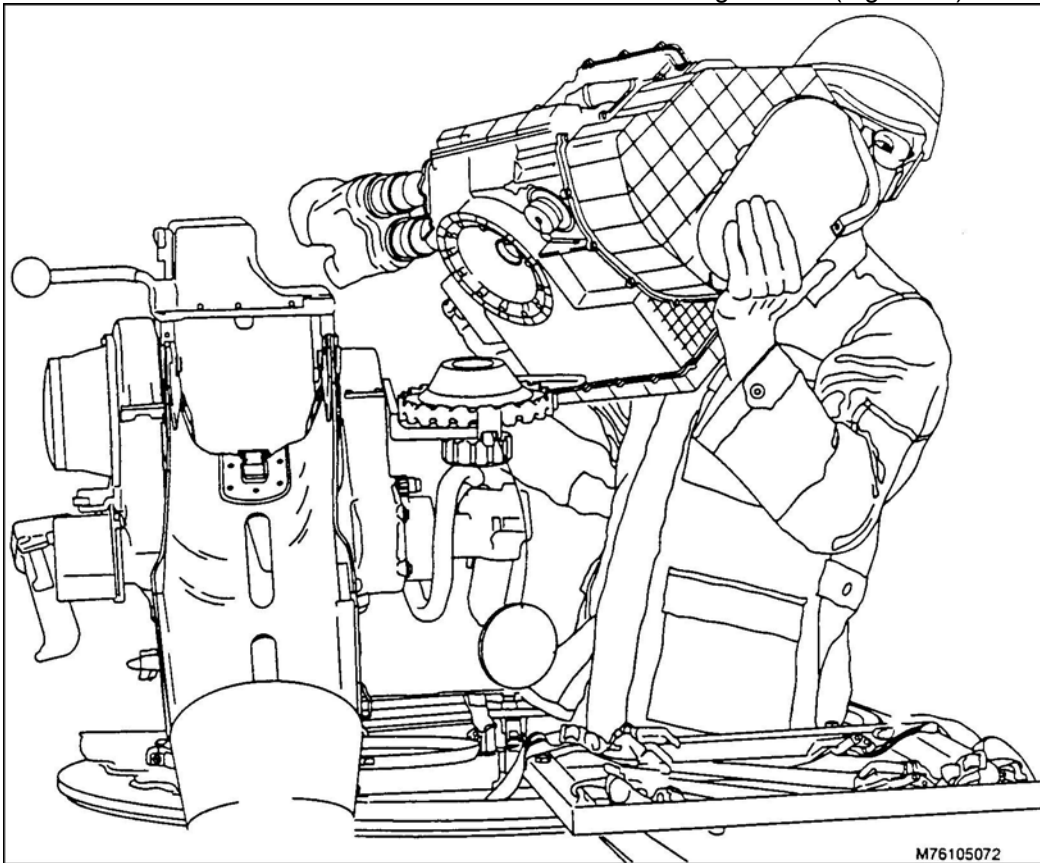

Figure 12. Installing TAS on TAS mount.
- f. Place the TAS onto TAS mount with the front window facing forward (Figure 12).